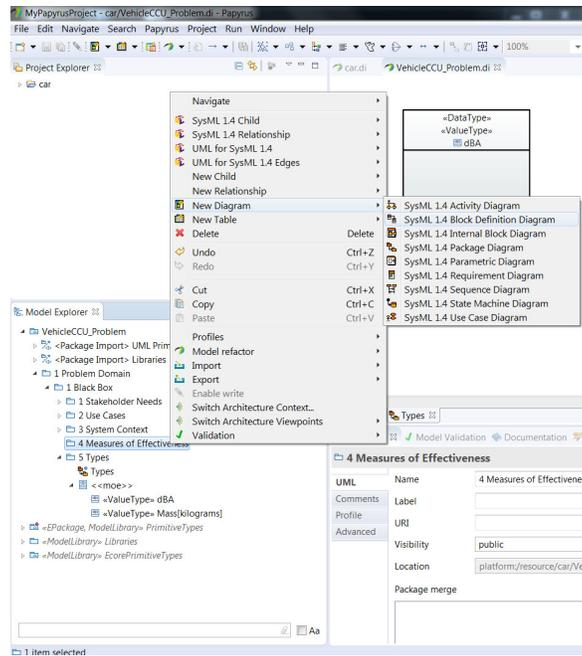
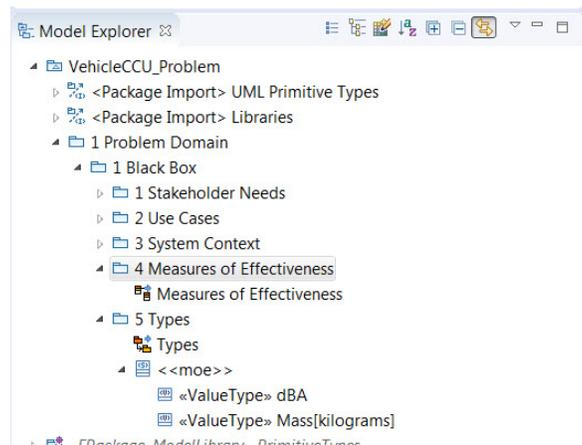

Figure 78: Create Block Definition Diagram.
Figure 79: Measures of Effectiveness BDD.
- Now that we have created our two value types let's get to our MOE's. Right-click the *4 Measures of Effectiveness* package in the *Model Explorer* and select **New Diagram** and then **SysML 1.4 Block Definition Diagram** (figure 78) and name it *Measures of Effectiveness*. Your *Model Explorer* window should look like (figure 79).